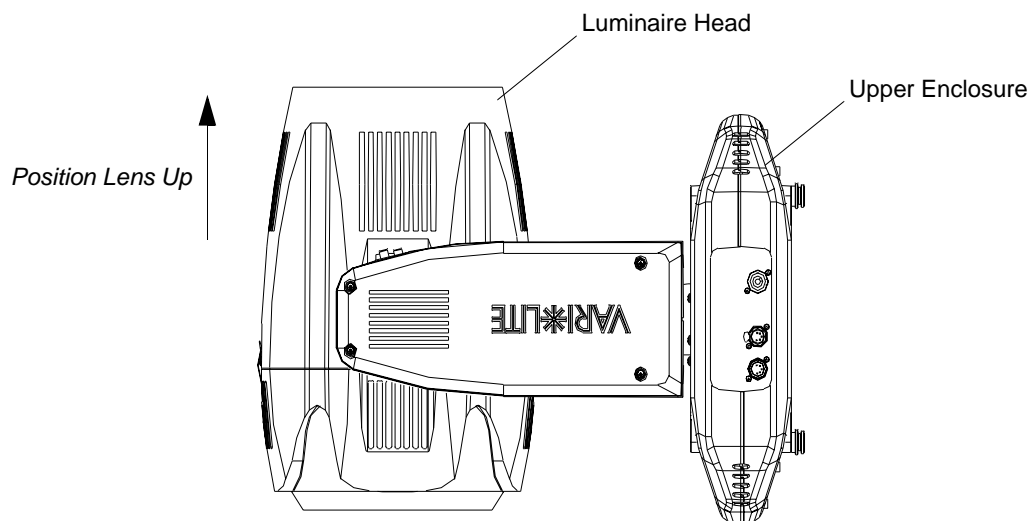

Figure 2-59: VLX Wash Luminaire
- Step 2. Carefully lay luminaire on flat, steady surface to have access to bottom cover of upper enclosure. Rotate head as shown in Figure 2-59.